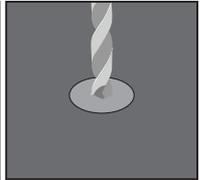

Figure 14.4
6. Then drill a 5/8 in./16mm diameter hole with a depth of 2 1/8 in./54mm and remove any excess dust (Figure 14.4).